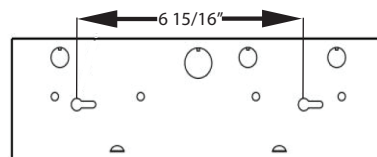
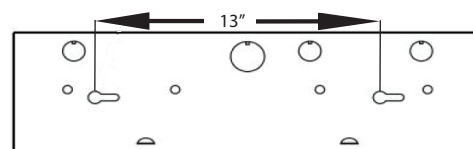
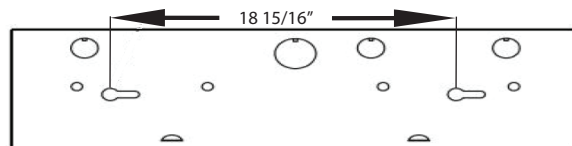

Figure 2
Figure 2a
Figure 2b
5. Install the fixture enclosure by using the provided wood screws using either the pre drilled holes or by using the keyhole slots. For reference, the distance between centers or the keyhole slots are shown in figure 2, figure 2a, and figure 2b.